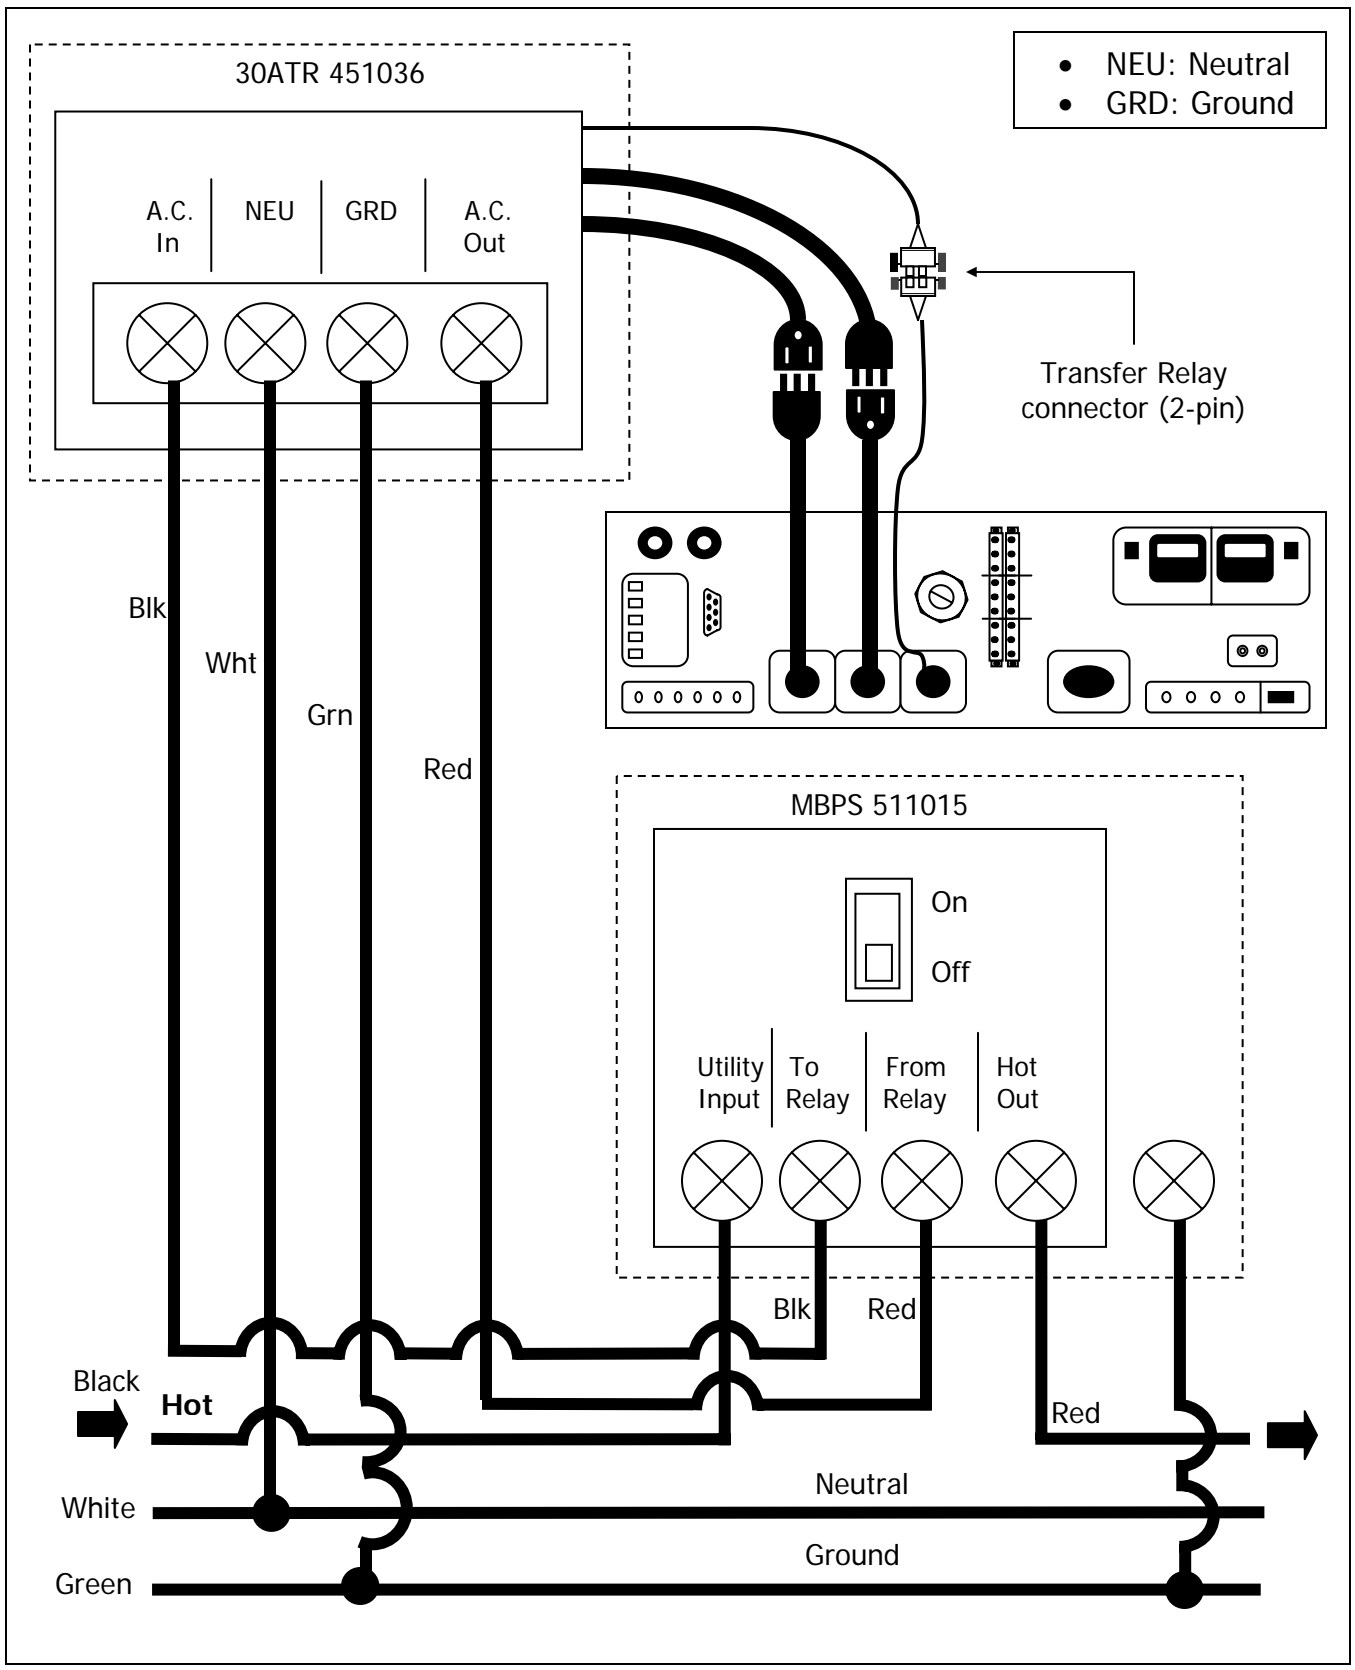
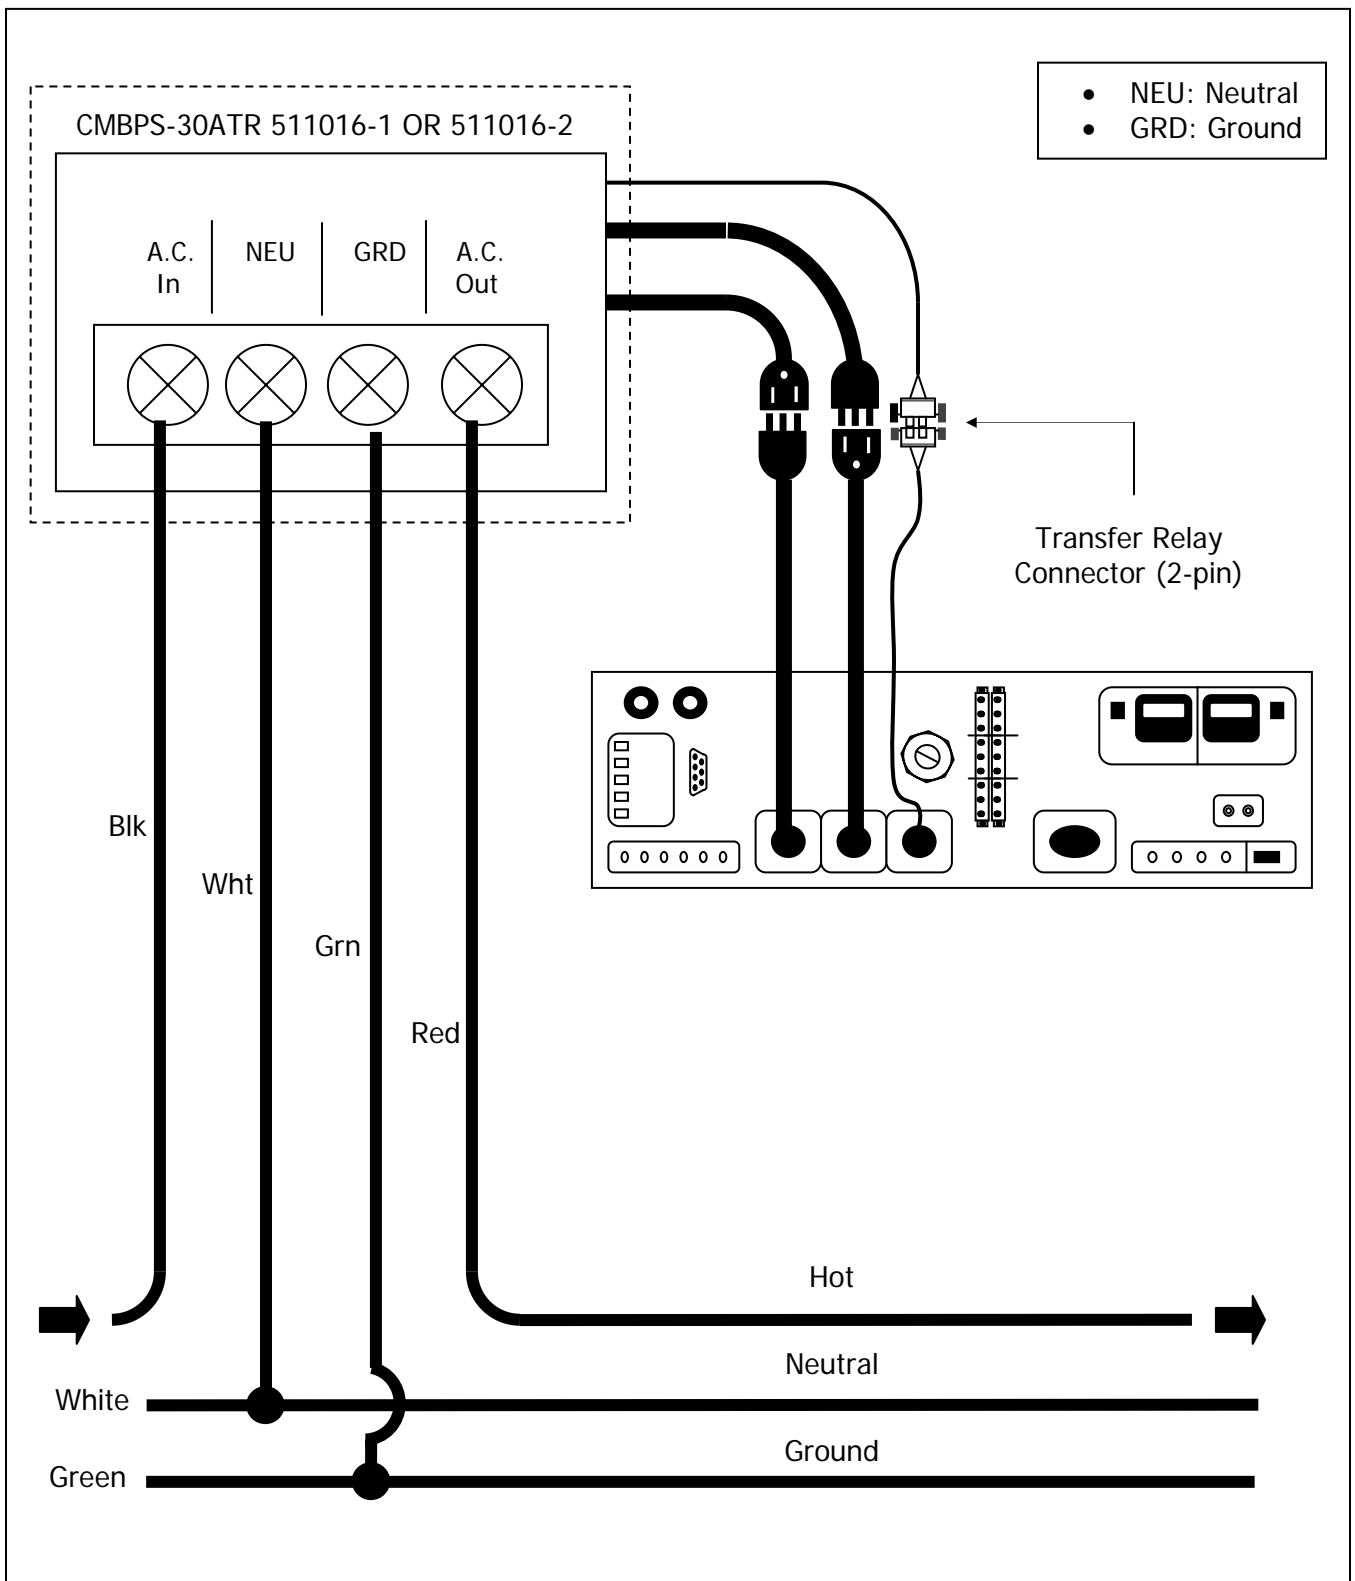

FIGURE 11: AC wiring configuration MBPS and 30ATR
FIGURE 12: Wiring configuration CMBPS-30ATR
- J) Connect the 30A automatic transfer relay two-pin connector from the BBS module into the 30A Automatic Transfer Relay two-pin connector. See Figure 11 Page 16 and Figure 12 Page 18.